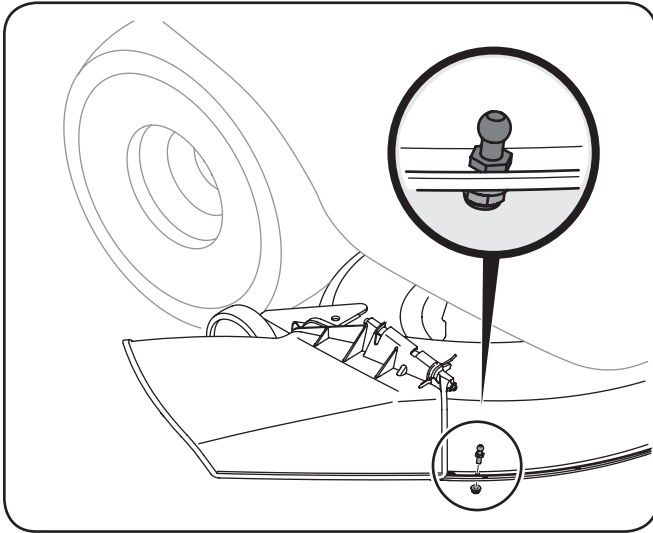

Figure 4-21
10. Install the ball pin (711-04069) from hardware pack 689-00091 into the hole in the front of the mower deck as shown in Figure 4-21, and secure with the included flange lock nut (712-04064).